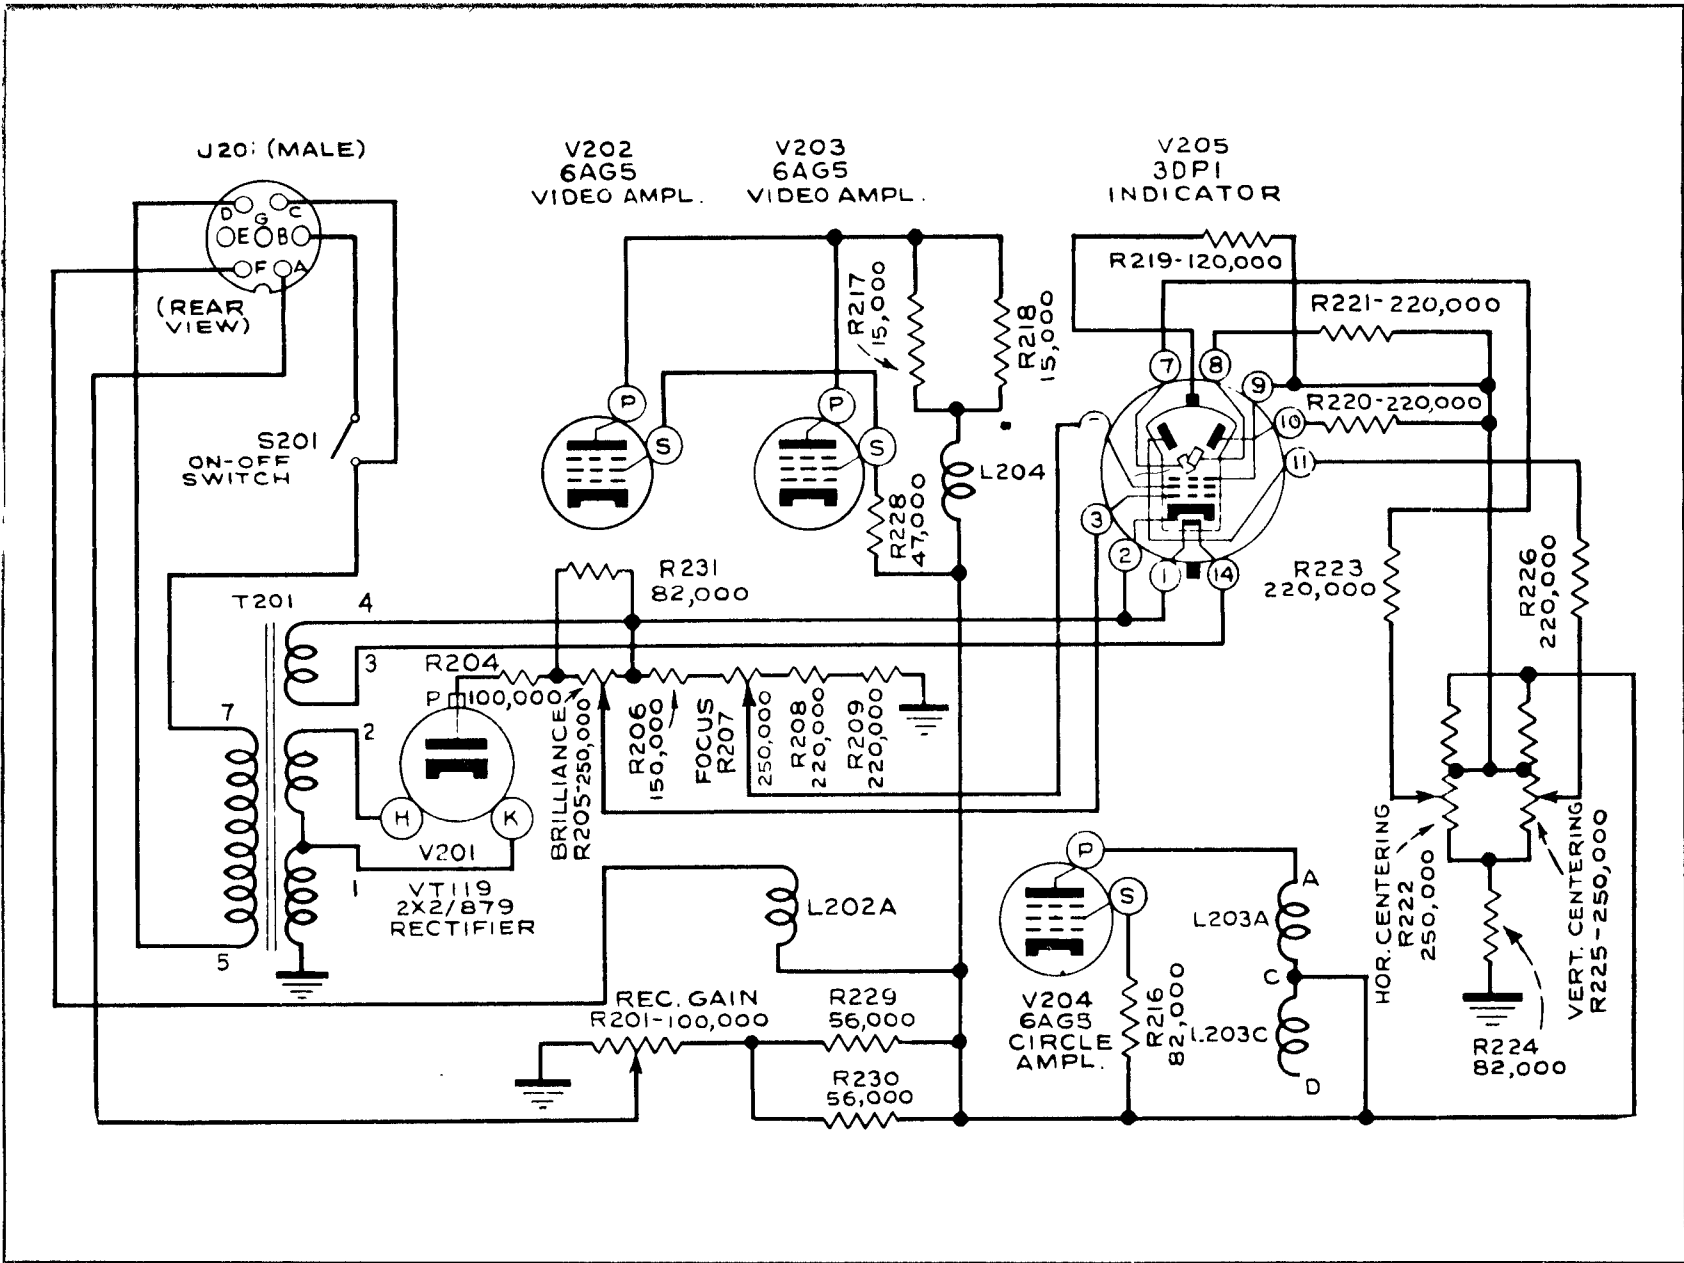

Figure 4-12. Indicator 1-152-A — Functional Diagram, High and Low Voltage Distribution
b. 1500-VOLT SUPPLY, (HIGH VOLTAGE). — The high voltage rectifier (tube V201) with its associated power transformer T201 is connected to the 115- or 80-volt supply through the interconnecting cable from the indicator to radio receiver and transmitter. (See fig. 4-12.) Transformer T201 supplies the plate and heater voltage for the high voltage rectifier and heater voltage for all amplifier tubes in the indicator and for the indicator tube V205. Filter and bleeder circuits associated with the high voltage supply are made up of capacitor C210A and C201B; resistors R204, R206, R208, and R209, and potentiometers R205 and R207. Potentiometers R205 and R207 function as the "BRIL." and "FOCUS" controls. A pilot light with a red indicator jewel (amber in later production models) shows when the power switch is in the "ON" position and the equipment is connected to the supply voltage. (Indicator I-152-B contains no pilot light.)